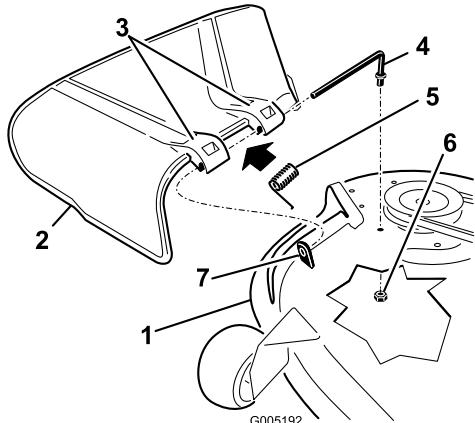

Figure 50
1. Locate items shown in Figure 50.
2. Remove the nut (3/8 inch) from the rod under the mower (Figure 50).
3. Slide the rod out of the short stand-off, internal lock washer, spring, and grass deflector (Figure 50). Remove the damaged or worn grass deflector.
4. Replace the grass deflector and internal lock washer (Figure 50).
through second grass deflector bracket and internal lock washer (Figure 50).
7. Insert rod at front of grass deflector into short stand-off on deck. Secure rear end of rod into the mower with a nut (3/8 inch) (Figure 50).